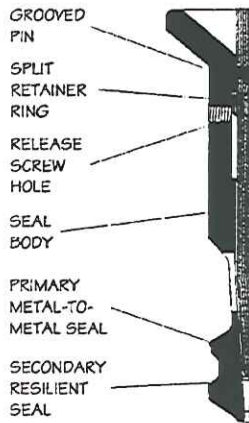

Figure 4a. detail of a metal-to-metal type Seal Assembly
9. Refer to **Figure 4a**. If a metal-to-metal type Seal Assembly is installed, inspect the Seal Assembly as follows.